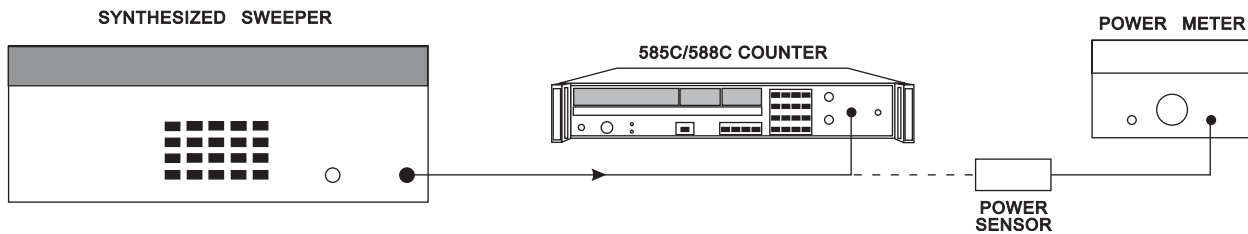

Figure 6-4. Band 1 Range and Sensitivity Test Setup
1. Connect the equipment as shown in Figure 6-4.